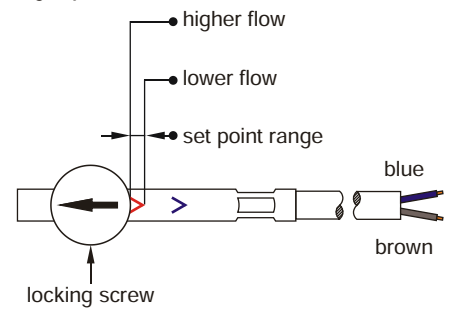
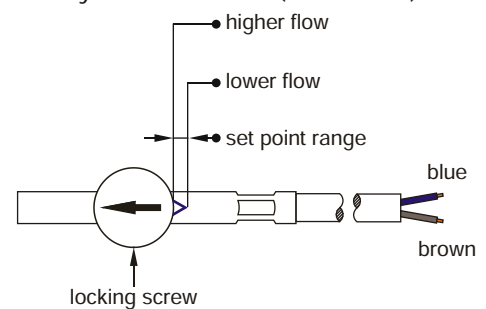

Fig. 20
Fig. 21
- ✚ Subsequently position the switching unit until the red (→ Fig. 20) or the blue arrow (→ Fig. 21) are visible at the entry of the switching unit guide for a desired make or break contact respectively (not required for change-over contact).